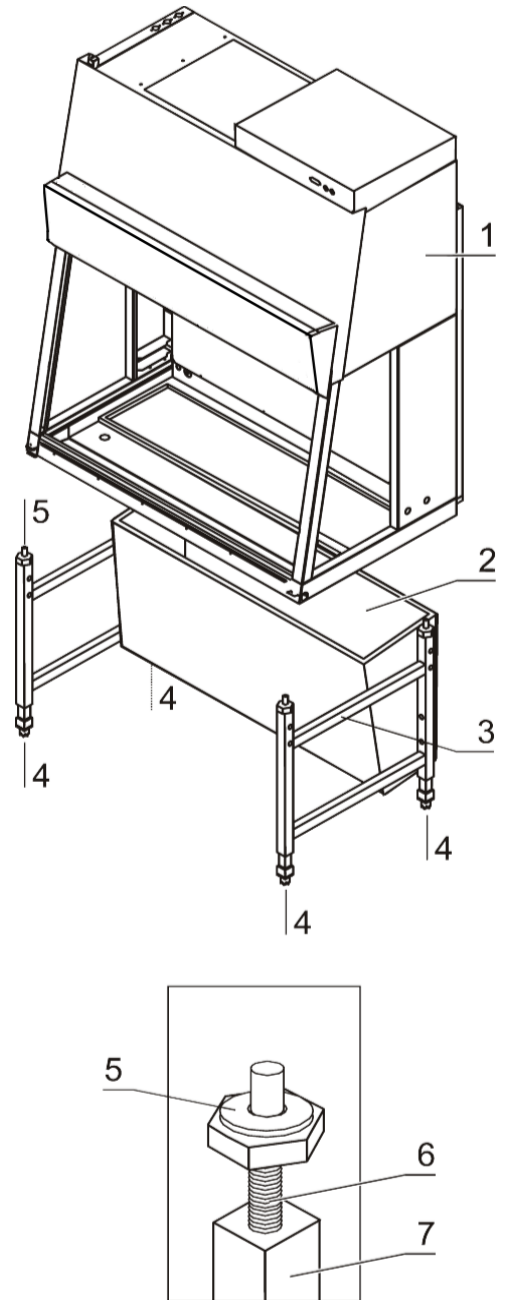

Fig. 10b
**Fig. 10b:** The stand [3] and the prefilter housing form an assembly. To facilitate the installation of the device frame [1], the stand is equipped with a lifting mechanism. The four columns [7] of the stand have threaded rods [6] onto which the device frame can be placed and lowered.
1. **Fig. 10b:** Unscrew the threaded rods from their hex disks [5] by approx. 10 cm and make sure their height is identical on all four columns.